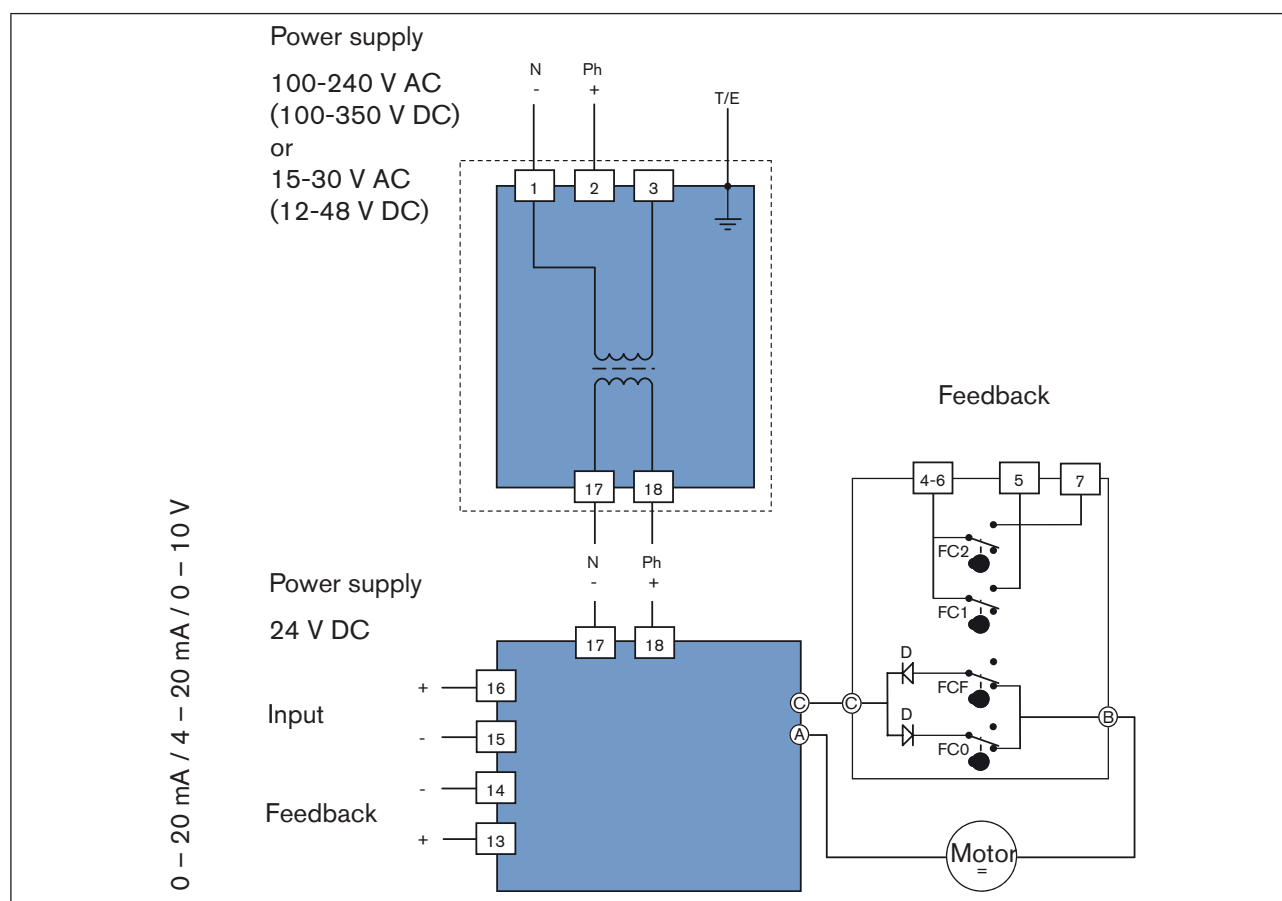

Figure 20: Circuit diagram
- Connect cable according to the circuit diagram (see “Figure 20”) to the terminal strip Pos. 14 of the power supply card (see “Figure 1” and “Figure 2”).
→ Connect cable to the terminal strip 12 (see “Figure 1” and “Figure 2”) according to the schematic (see “Figure 20”).